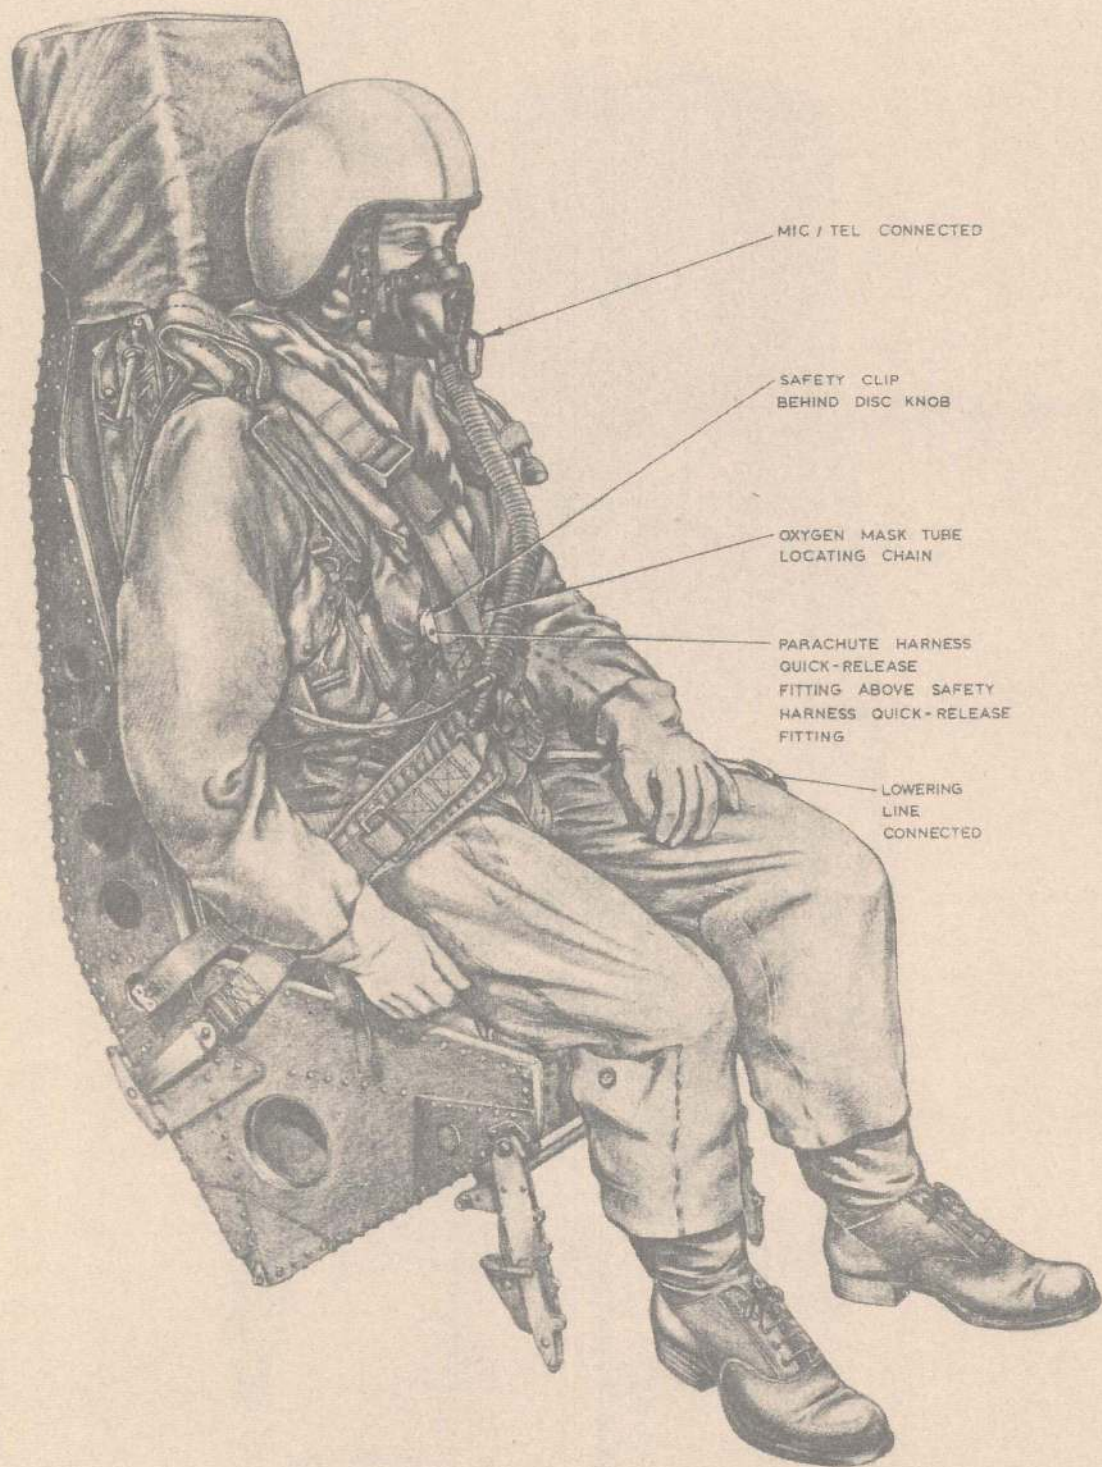

Fig. 8. The static seat occupied
21. Strapping-in procedure for each rear crew member is the same and is as follows; refer to fig. 8 for detail:—